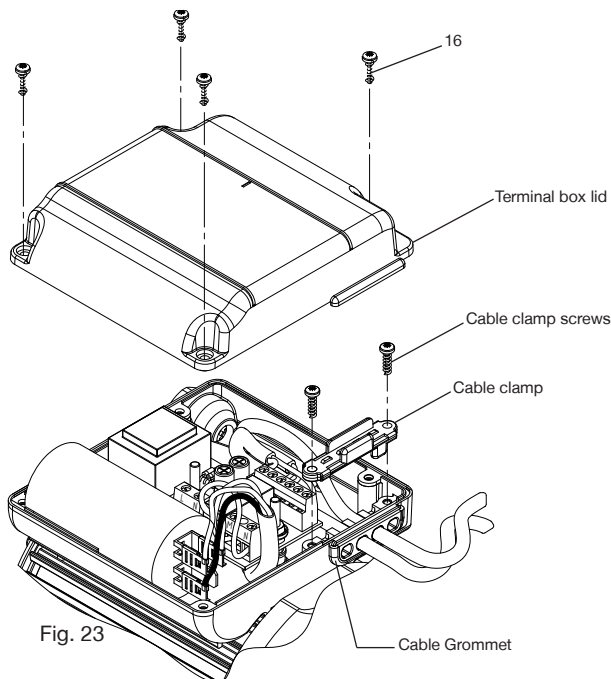

Fig. 23
- Remove four screws (item 16) and carefully remove terminal box lid (Fig. 23).
- **IMPORTANT** – take note of the cable clamp orientation before removal, as reassembly in the original factory orientation is essential. Remove two screws and cable clamp, this allows any reed or pressure switch cables to be removed from the terminal box (Fig. 23).